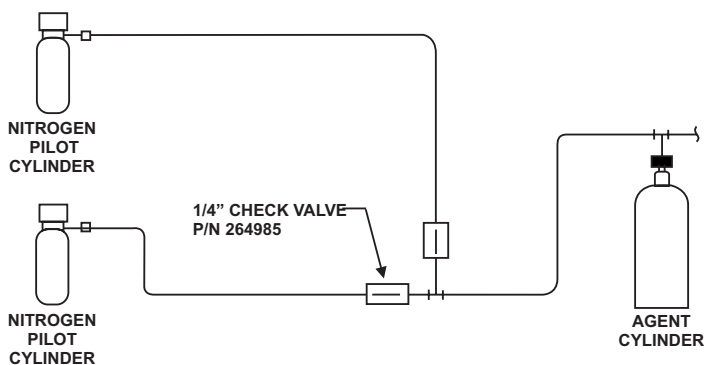

Figure 3-8. Multiple Pilot Nitrogen Actuation Cylinders
- 1/4 in. check valves (P/N 264985) shall be installed at the intersection of each pilot line to the main actuator line (see Figure 3-8).